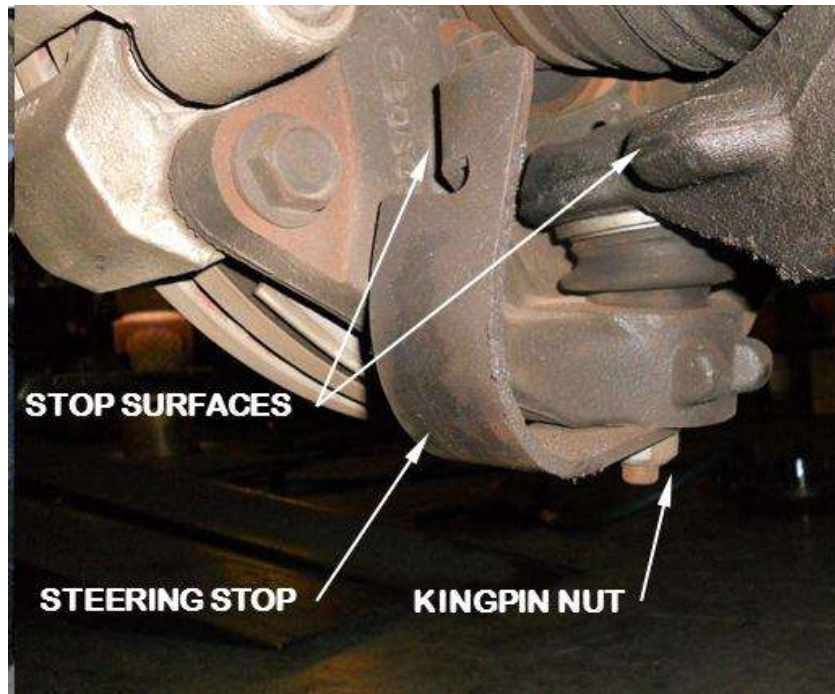

Figure 2 – Steering Stop Installation and Adjustment
- b. Remove the lower kingpin nut from each front steering knuckle as shown in Figure 2.